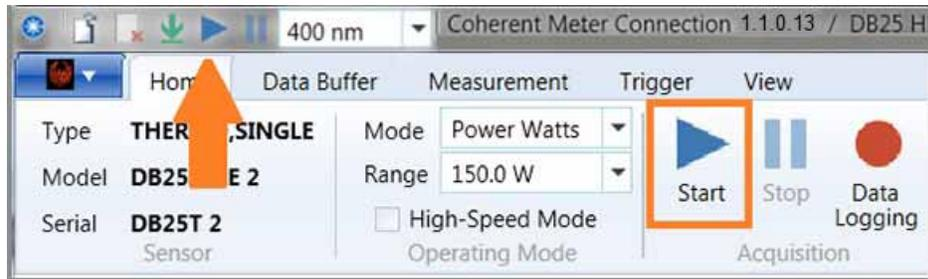

Figure 6-8. Start Data Collection
- a.) To begin data collection, press the **Start** icon in the toolbar or the Home tab, shown in Figure 6-8.